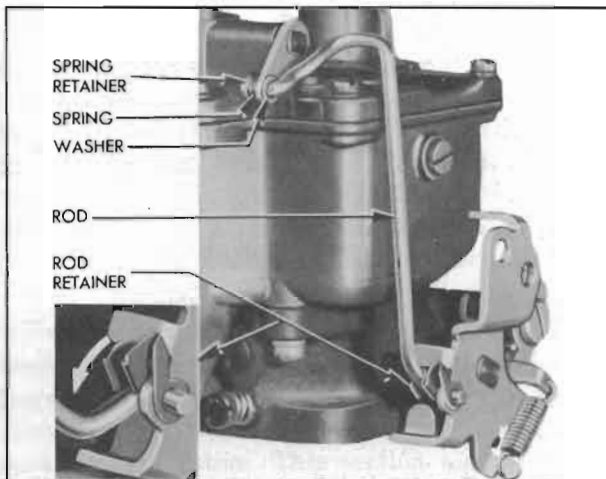

Figure 3-39—Installation of Throttle Connector Rod
20. Place pump connector rod retainer over throttle shaft lever at connector rod hole, insert end of rod through retainer and lever holes, and snap retainer into place on rod. Connect upper end of rod to pump operating countershaft arm, using flat washer on outer side of arm with spring and retainer on inner side. See figure 3-39.